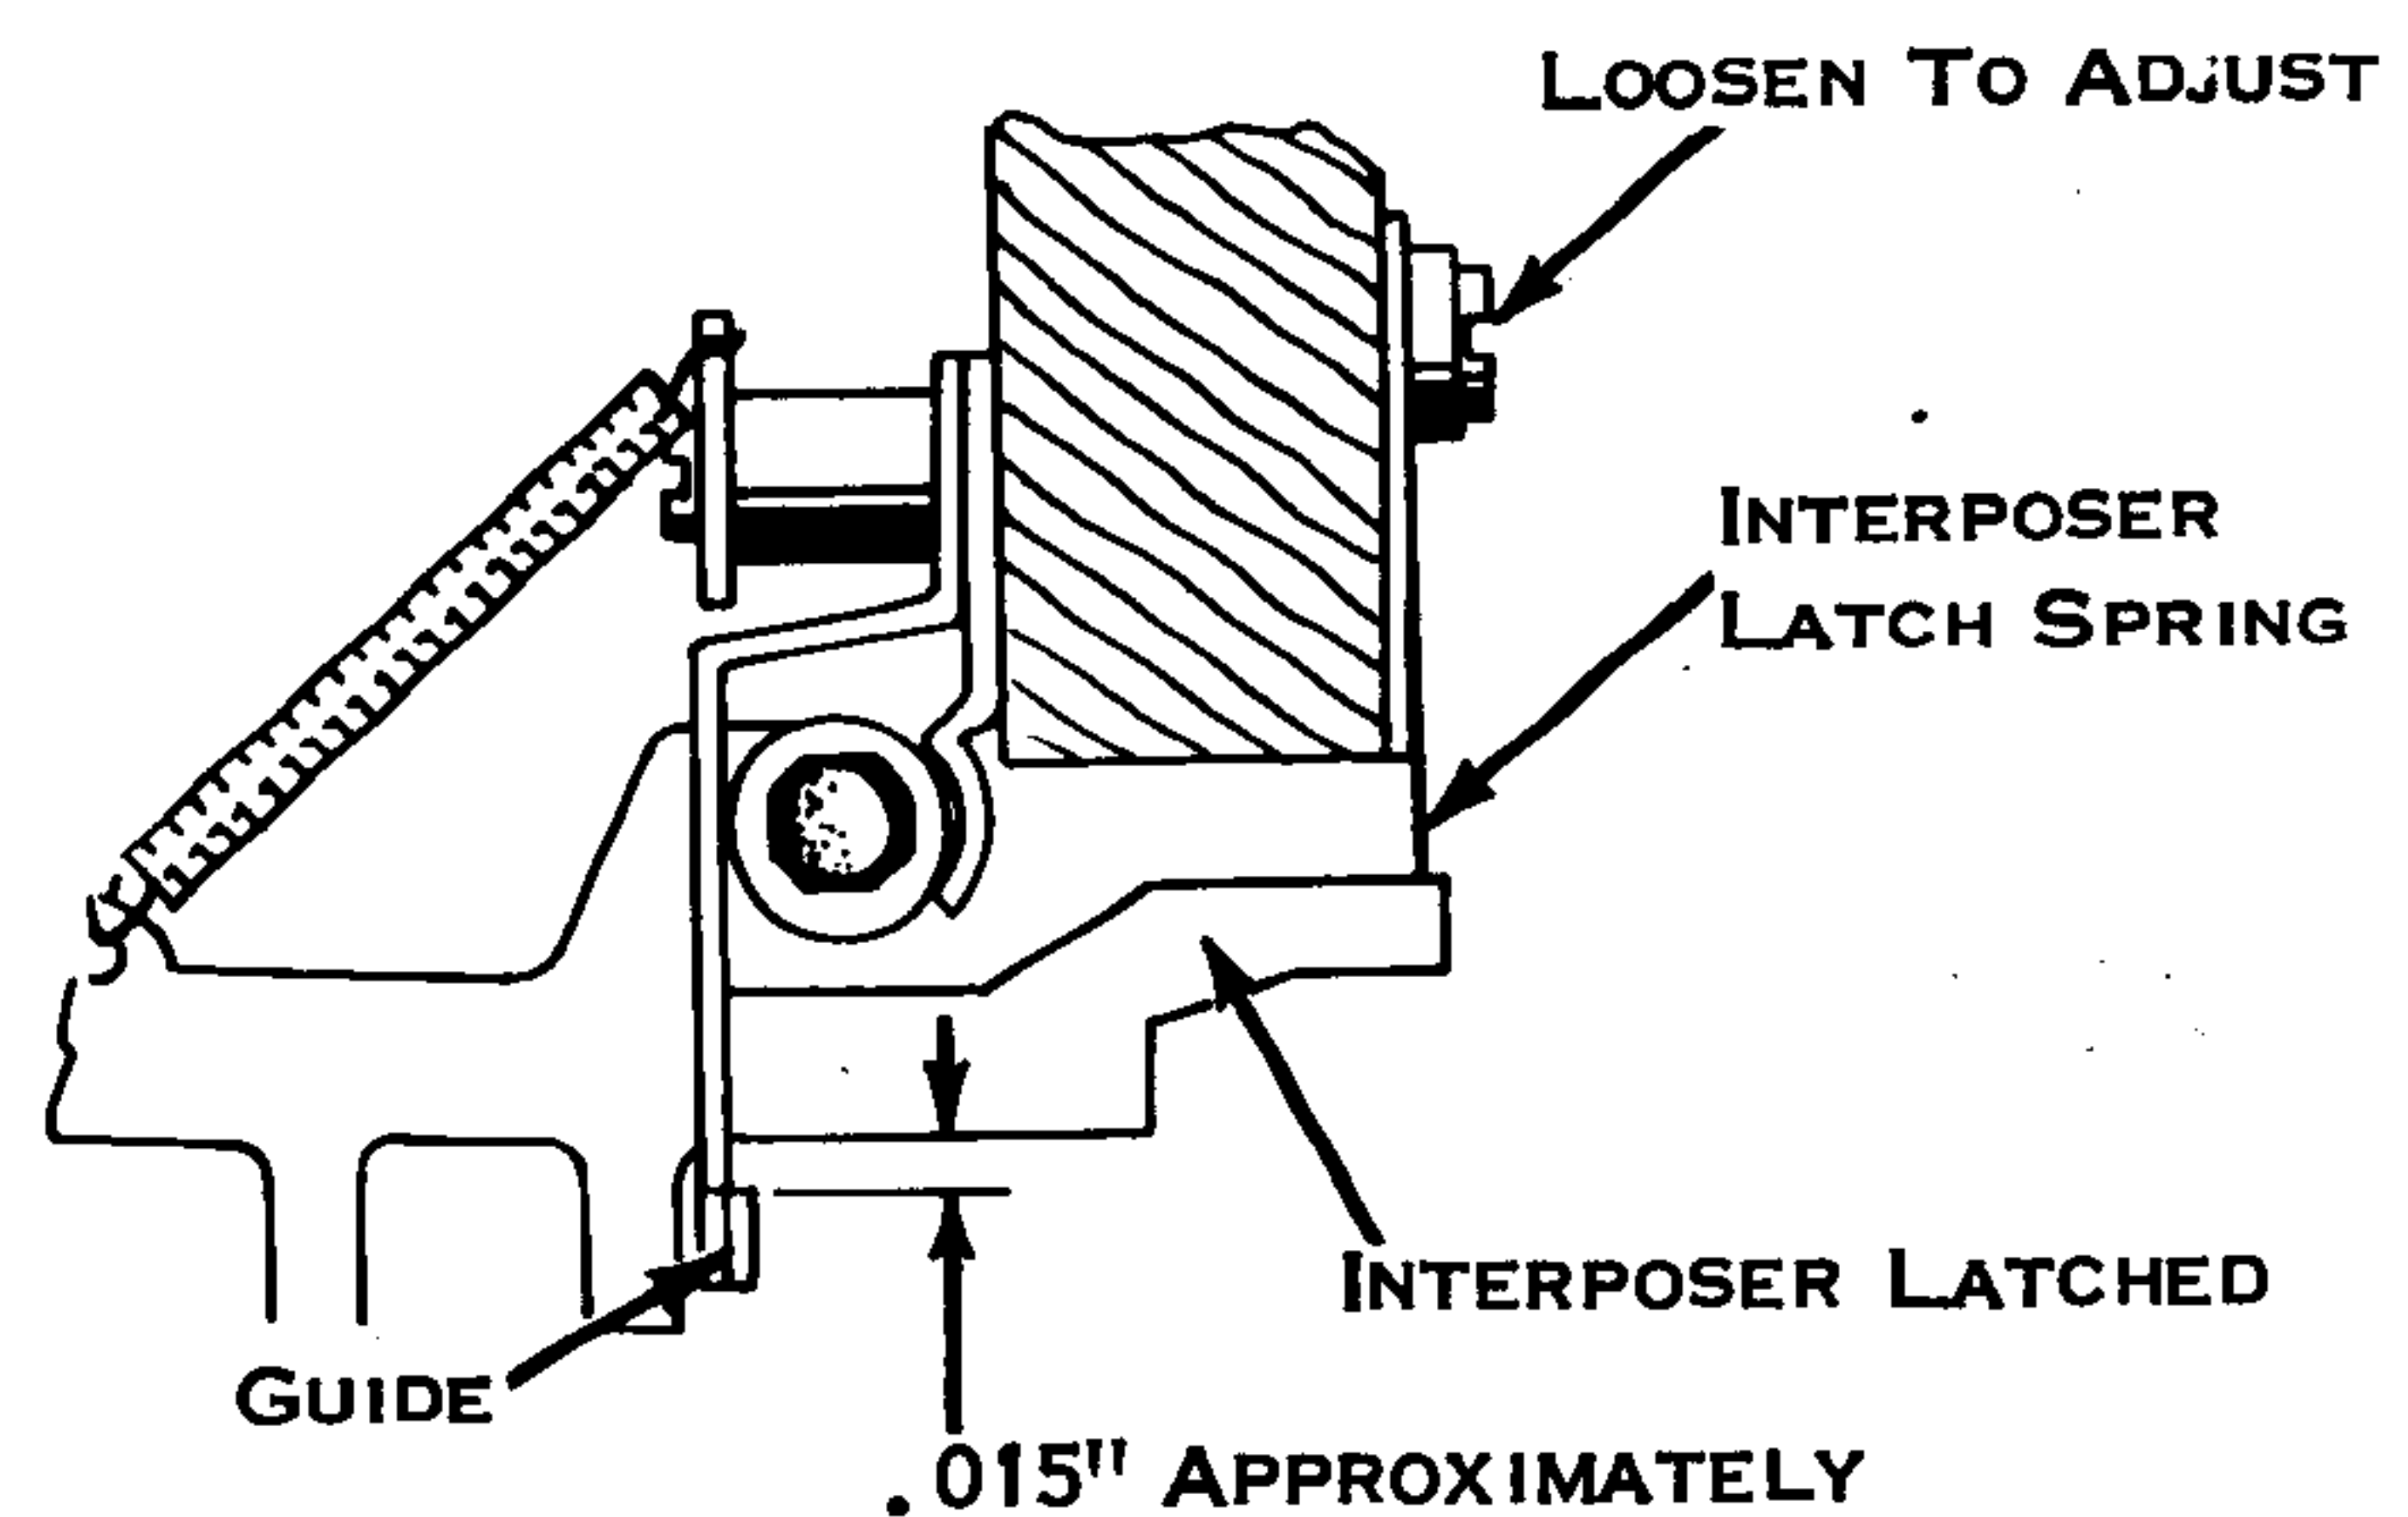
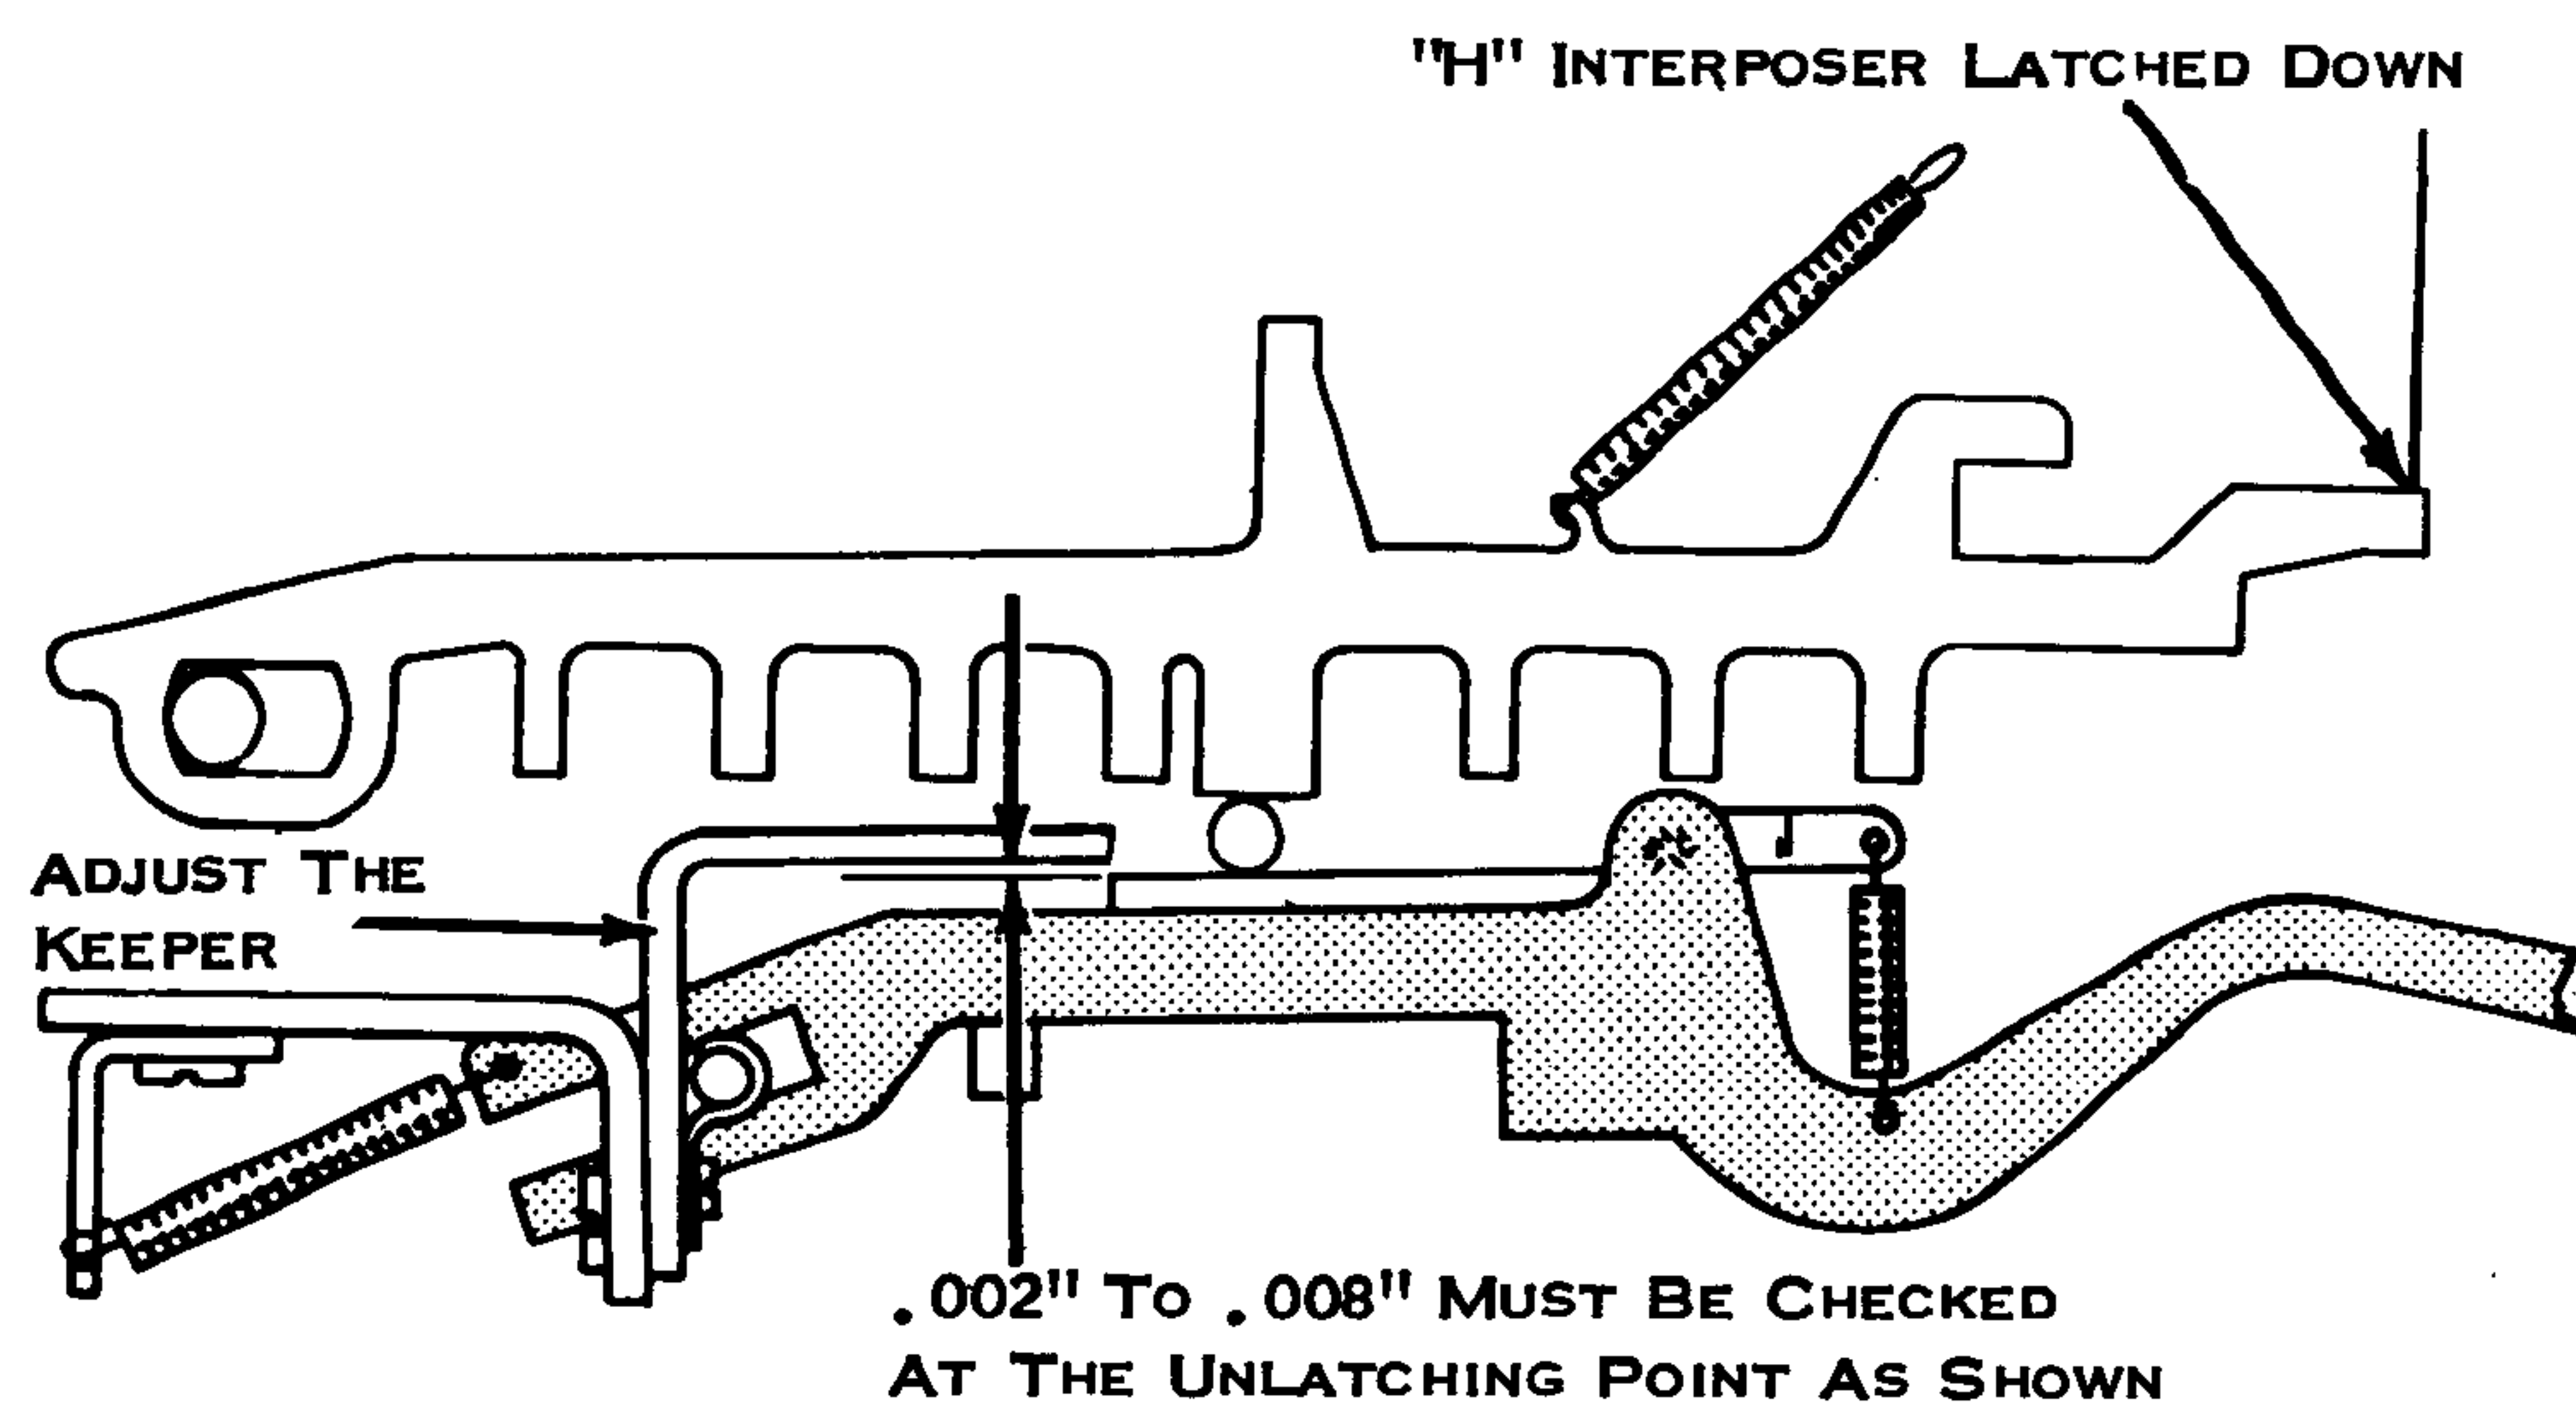

Figure 8. Interposer Latch Spring Adjustment, Preliminary
Figure 12. Cycle Clutch Release Point
4. Interposer Latch Spring Adjustment, Preliminary (Fig. 8) - With the H interposer latched, position the latch spring so that approximately .015" travel remains before the interposer bottoms in the guide slot.
7. Cycle Clutch Latch Keeper, "Release Point" (Fig. 12) - Position ("H" interposer latched down) so that the latch pawl clears the keeper by  $.002''$  to  $.008''$  at the unlatching point.
8. Interposer Latch Spring Adjustment, Final (Fig. 12, Ref. Fig. 8) - Position the left and right interposer latch spring banks so that the  $.002''$  to  $.008''$  latch pawl to keeper clearance is maintained with various interposers latched down.